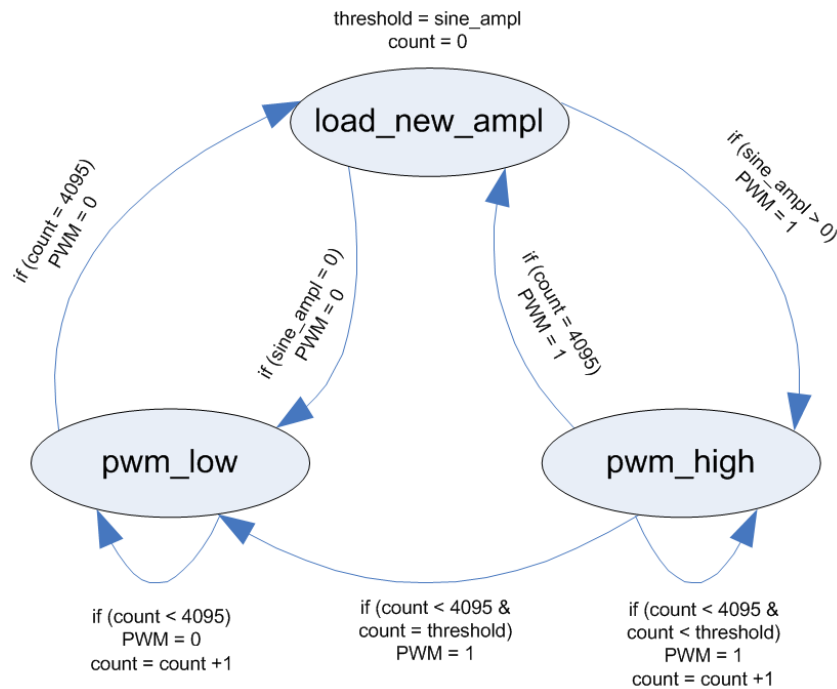

Figure 7.2: FSM state diagram
*FSM* module will generate the PWM signal. It will generate the PWM signal with correct duty cycle for each period based on the current amplitude value of digital sine signal, that is stored in the ROM. State diagram of the FSM is shown on the Figure 7.2.